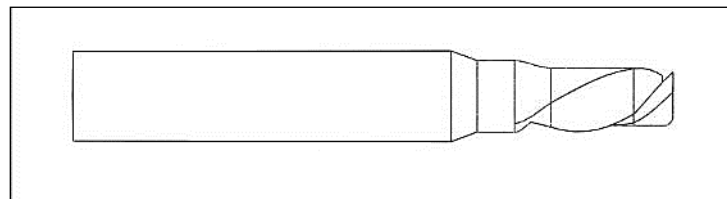

Figure 1. GFR-Bit
- 3.1.1. Obtain the GFR-Bits required for the application or task being performed. See **Figure 1**.